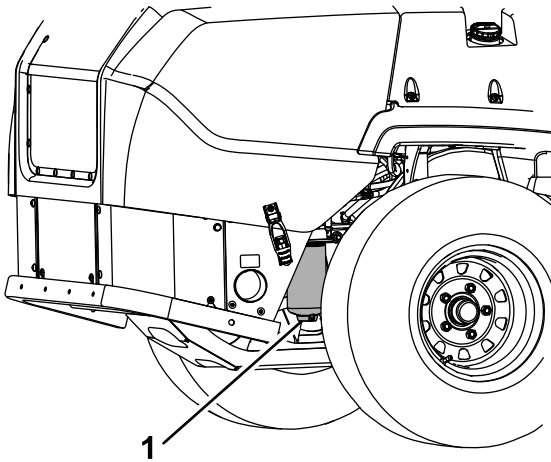

Figure 44
4. Open the drain plug on the water separator approximately 1 turn to allow water and other contaminants to drain (Figure 44).